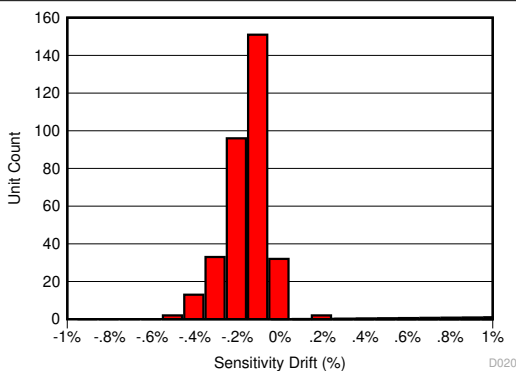
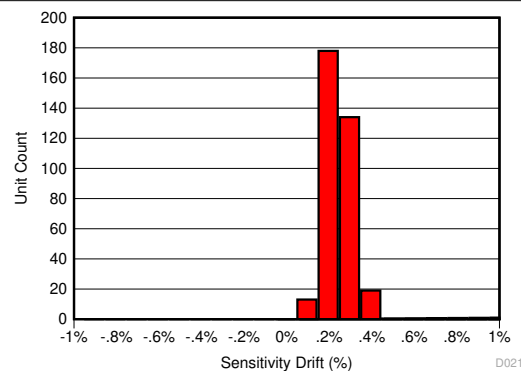
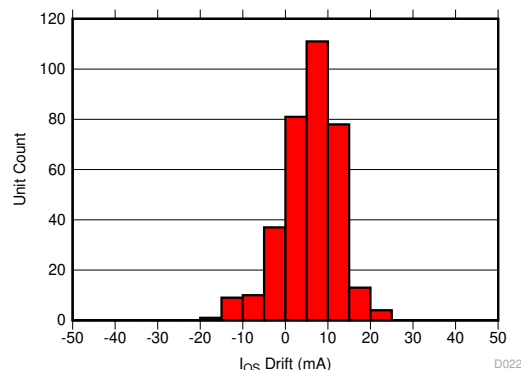

Figure 9-1. Sensitivity Error After 130°C, 85% RH HAST
Figure 9-2. Sensitivity Error Drift After AEC-Q100 High Temperature Operating Life Stress Test
Figure 9-3. Input-Referred Offset Drift After AEC-Q100 High Temperature Operating Life Stress Test
The same compensation techniques utilized in the TMCS1107-Q1 to reduce temperature drift also greatly reduce lifetime drift due to aging, stress, and environmental conditions. Typical magnetic sensors suffer from up to 2% to 3% of sensitivity drift due to aging at high operating temperatures. The TMCS1107-Q1 has greatly improved lifetime drift, as defined in the Electrical Characteristics table for total sensitivity error measured after the worst-case stress test during a three lot AEC-Q100 qualification. All other stress tests prescribed by an AEC-Q100 qualification caused lower than the specified sensitivity error, and were within the bounds specified within the Electrical Characteristics table. Figure 9-1 shows the total sensitivity error after the worst case stress test, a Highly Accelerated Stress Test (HAST) at 130°C and 85% relative humidity (RH), while Figure 9-2 and Figure 9-3 show the sensitivity and offset error drift after a 1000 hour, 125°C high temperature operating life stress test as specified by AEC-Q100. This test mimics typical device lifetime operation, and shows the likely device performance variation due to aging is vastly improved compared to typical magnetic sensors.